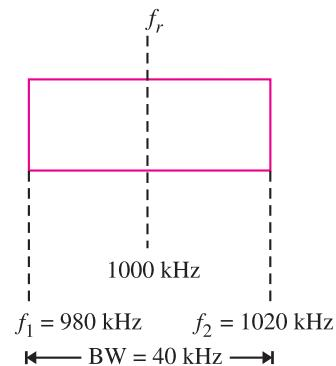

Fig. 15.3
**Illustration.** Consider a tuned amplifier that is designed to amplify only those frequencies that are within  $\pm 20$  kHz of the central frequency of 1000 kHz (*i.e.*,  $f_r = 1000$  kHz). Here [See Fig. 15.3],